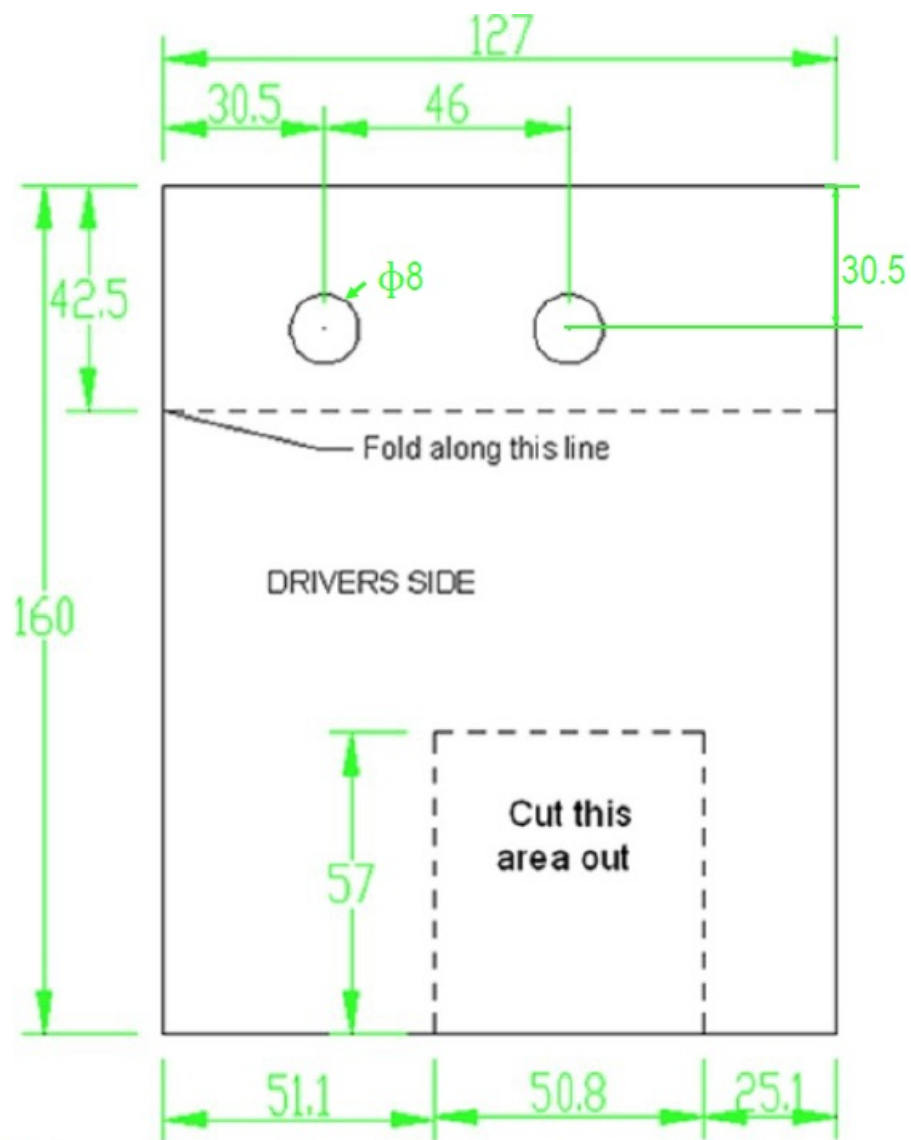

Fig 16
- Cut out the paper template on Fig 16 & 17 labelled "Driver Side". Cut out the square section on the bottom of the Template and the (2) 8mm holes on the top. Fold the top of the Template up along the dotted line, (Fig 2). Hold the Template in place over the outer (2) factory 8mm threaded holes next to the pinch weld, (Figs 3 & 4).